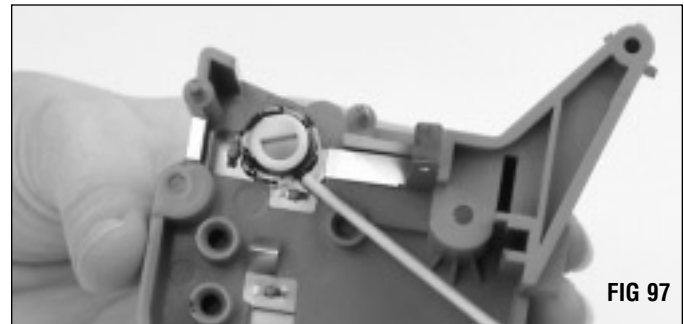

FIG 97
12. Apply a THIN layer of conductive cartridge lubricant on the electrical contact (FIG 97).